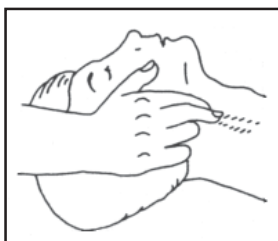
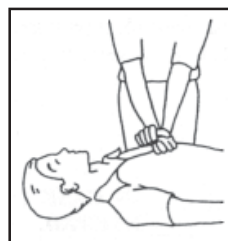
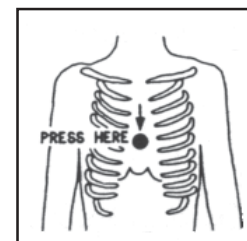

Figure 3
Figure 4
Figure 5
- Check the heart beat (Figure 3); if there is none, start a cardiac massage immediately (Figure 4) pressing the sternum approximately at the centre of the chest (Figure 5).